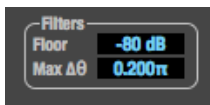

Figure 11-25: Filters.
The *Filters* section (Figure 11-25) lets you control the density of the Phase Analysis display.
*Floor* (Figure 11-25) determines the amplitude threshold for the display. When the amplitude of both channels drops below this threshold, the signal is not shown.
*Max delta theta* (Figure 11-25) only affects Line view (see “Line/Scatter” on page 99) and sets the maximum difference in frequency between plot points in the line plot. For two adjacent frequencies, if the distance (phase difference) between the two frequencies is greater than the *Max delta theta*, then the line is not drawn.